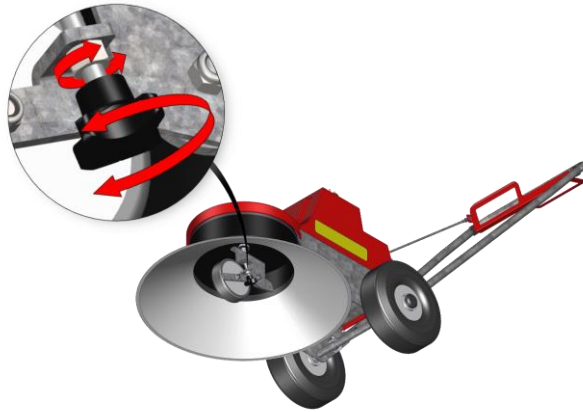

Fig. 23: WR 650 brush adjustment
1. Loosen the hexagon nut in accordance with Fig. 23.